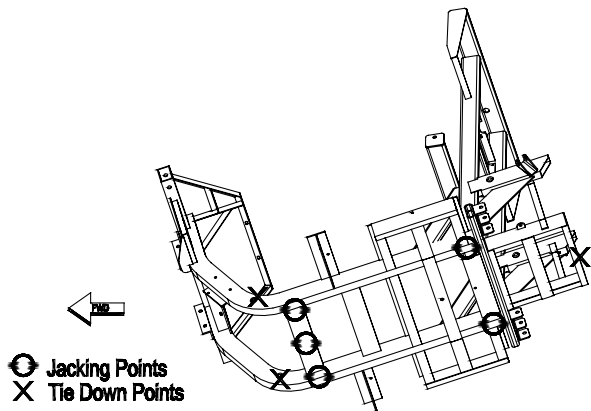

Figure 24 - Jacking and Tie Down Points
- Jack the vehicle only from the side of the vehicle, on the main frame rail, at the point where the tub or floor panel support and the main frame rail are welded (Figure 24). Alternative locations include the rear frame rail and the center of the front cross member.